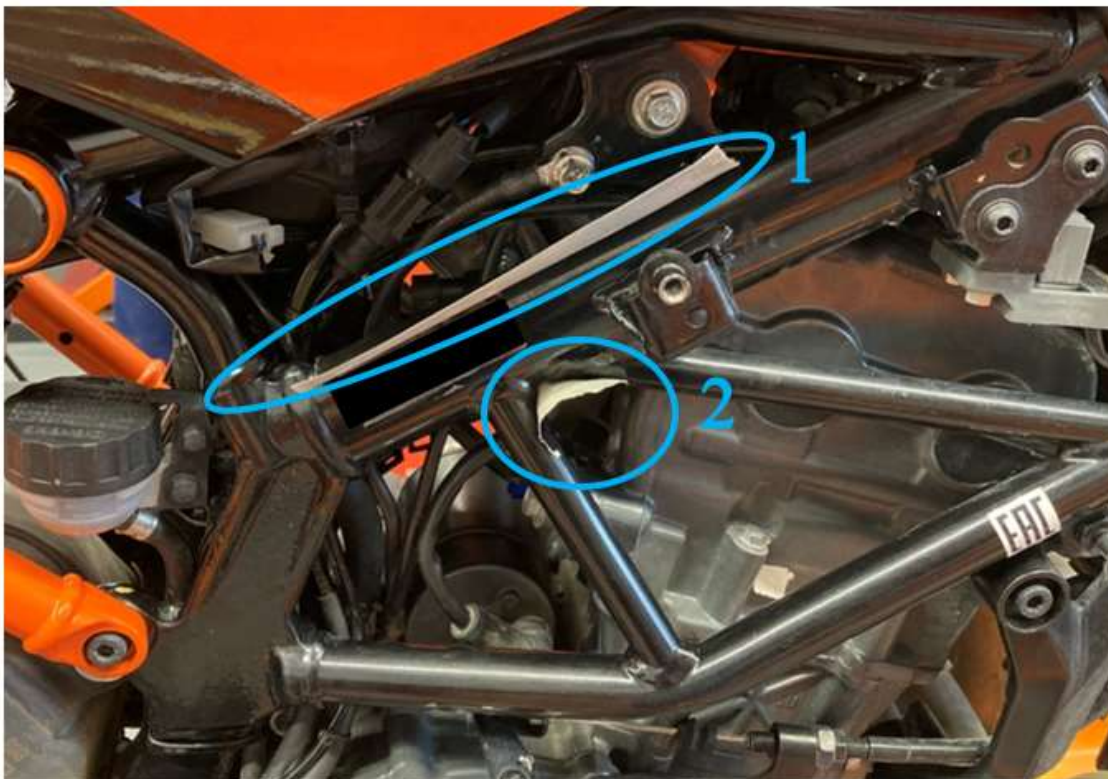

Fig. 1 – Tape placement
1. Protect the frame with suitable tape at positions 1 and 2 (see Fig.1).